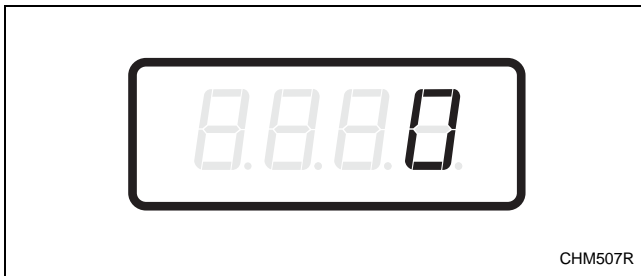

Figure 18
2. When “SA14” appears in the display, press the START (enter) keypad. There are five digits in the Special Vend A Heavy/Hot Vend Price. The fifth digit will appear in the display and will flash one (1) second on and one (1) second off. Refer to *Figure 18*.